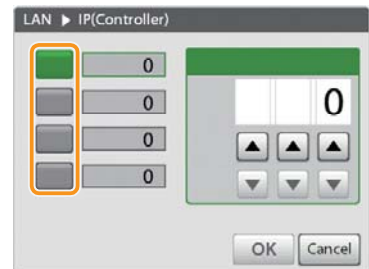

Figure 3-107
2. Tap the button of the address value you want to input. (Figure 3-107)